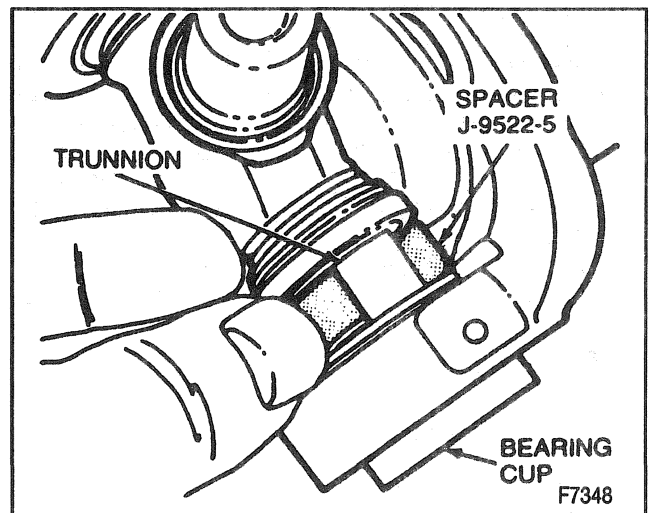

Figure 15—Using Available Spacer
- In order to shear the plastic retaining ring on the bearing cup, place J 9522-3 on the open horizontal bearing cups and press the lower bearing cup out of the yoke ear. If the bearing cup is not completely removed, lift the cross and insert J 9522-5 between the seal and bearing cup being removed and continue to press it out of the yoke (Figure 15).
- Place J 9522-3 on the open horizontal bearing cups and press the lower bearing cup out of the yoke ear. If the bearing cup is not completely removed, lift the cross and insert J 9522-5 between the seal and bearing cup being removed and continue to press it out of the yoke (Figure 15).